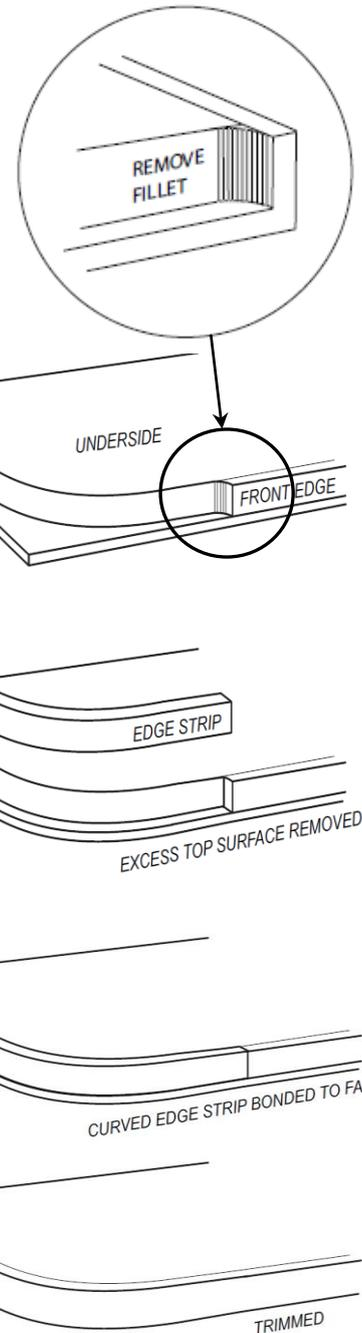

Fig. 8: Fitting the Curved Edging Strip
- Clamp the hob or sink jig/template in correct position onto the worktop (Fig. 8). Check that corners have correct radius for the hob or sink (some sink radii are rather large) before commencing. In all cases use a minimum cutter diameter of 12mm and ensure that the minimum radius of 6mm is left inside each corner - do not remove it to leave a square corner.
- Clamp the hob or sink jig/template in correct position onto the worktop (Fig. 8). Check that corners have correct radius for the hob or sink (some sink radii are rather large) before commencing. In all cases use a minimum radius of 6mm.